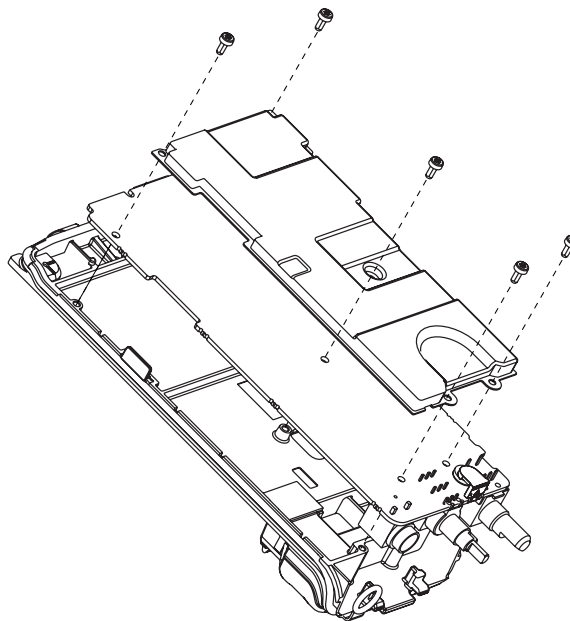

Figure 32. Removing the Main Board from the Chassis
3. Lift the main board from the chassis as shown in Figure 32.